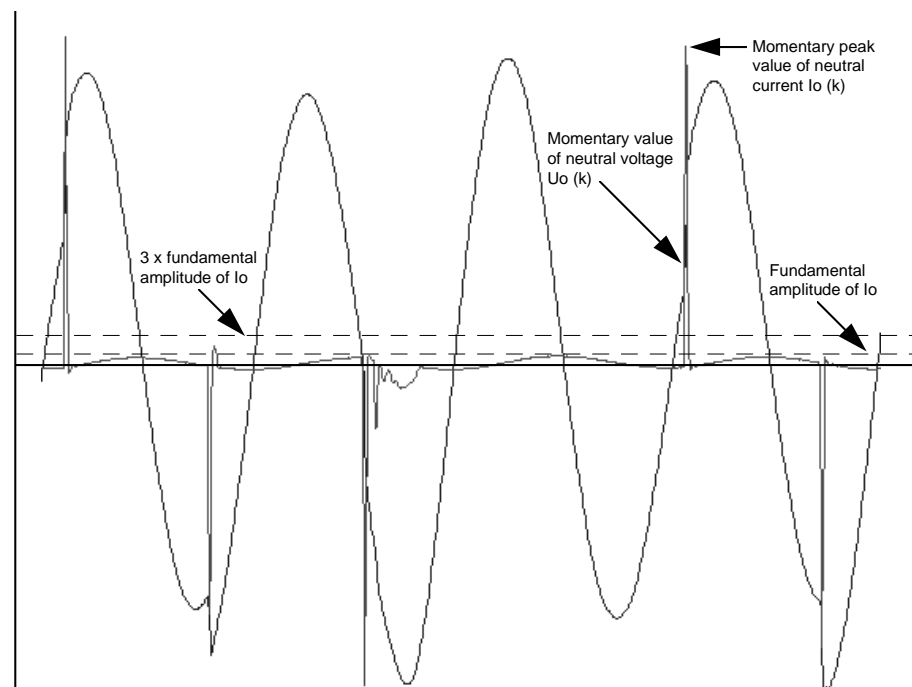

Figure 2.3.3.-1 Intermittent earth-fault in the protected area
EFSIGN, which is the result of the multiplication of momentary values  $U_0(k) \times I_0(k)$  (see Figure 2.3.3.-1), increments or decrements a cumulative counter of strikes. If two strikes are counted in forward direction, intermittent earth-fault is detected. The intermittent earth-fault can start the protection if the voltage amplitude exceeds its setting, even if the phase angle between the neutral current and the residual voltage is not within the operation area of the characteristic used. The intermittent earth-fault protection can only be used in a compensated network and with the definite-time (DT) operation. It is recommended that the fundamental frequency measurement mode with the intermittent protection is used.